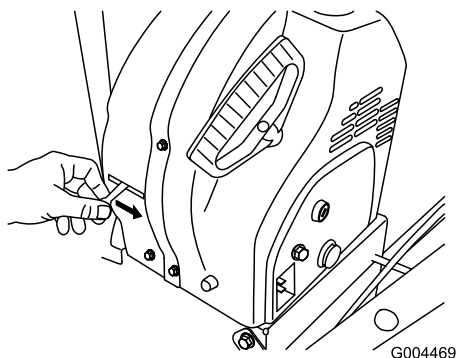

Figure 21
2. Move the choke lever to the right (Figure 21).